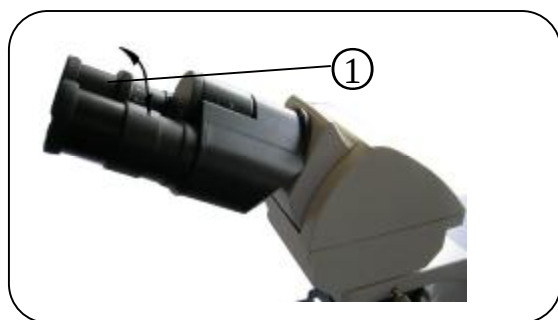

Fig. 12.
6. Diopter adjustment (Fig. 12.)